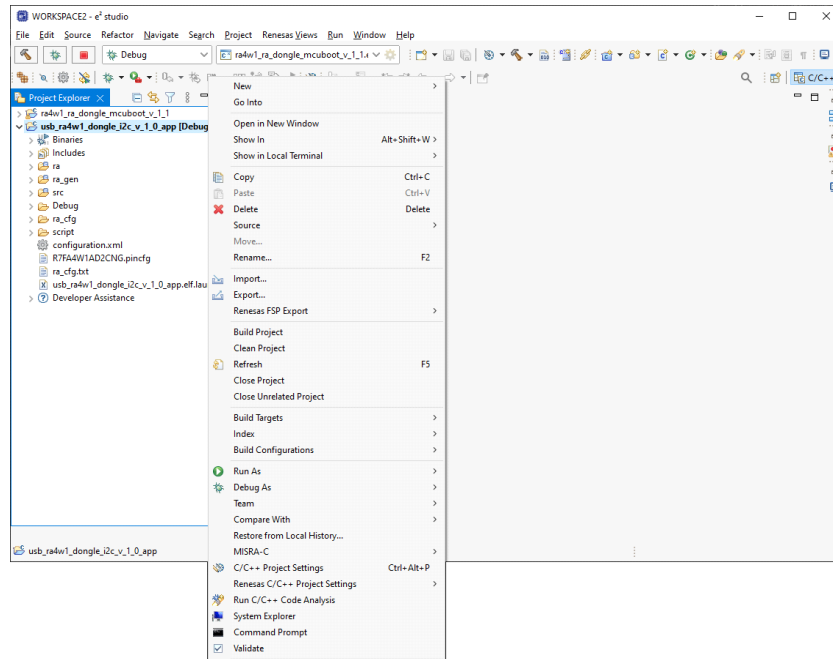

Figure 24. Opening Project Properties
13. The project is now duplicated into the e² studio workspace and must be configured. In the Project Explorer, right-click on the application project folder and select **Properties** to open the project properties window (Figure 24).